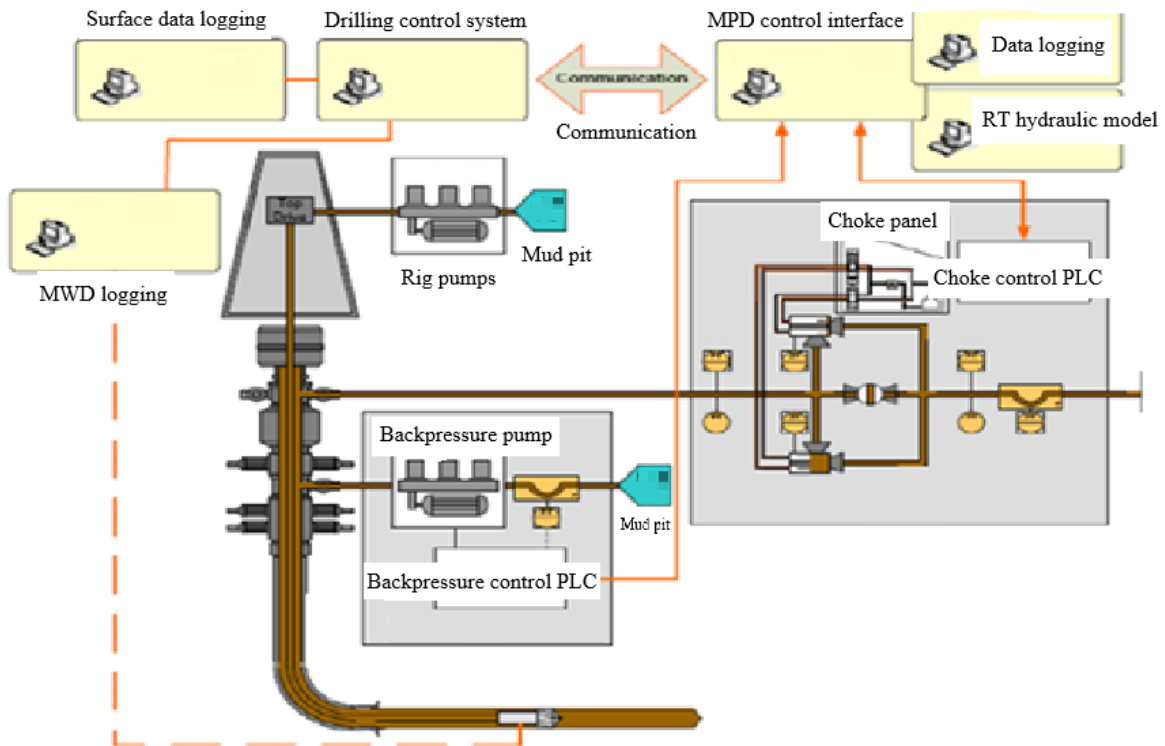

Figure 1 Automated MPD system
Figure 1 shows a schematic of managed pressure drilling (MPD) system. In the figure, RT stands for real-time, and PLC is programmable logic controller.
**Q1.2.** Describe how the automated MPD system shown in Figure 1 works.